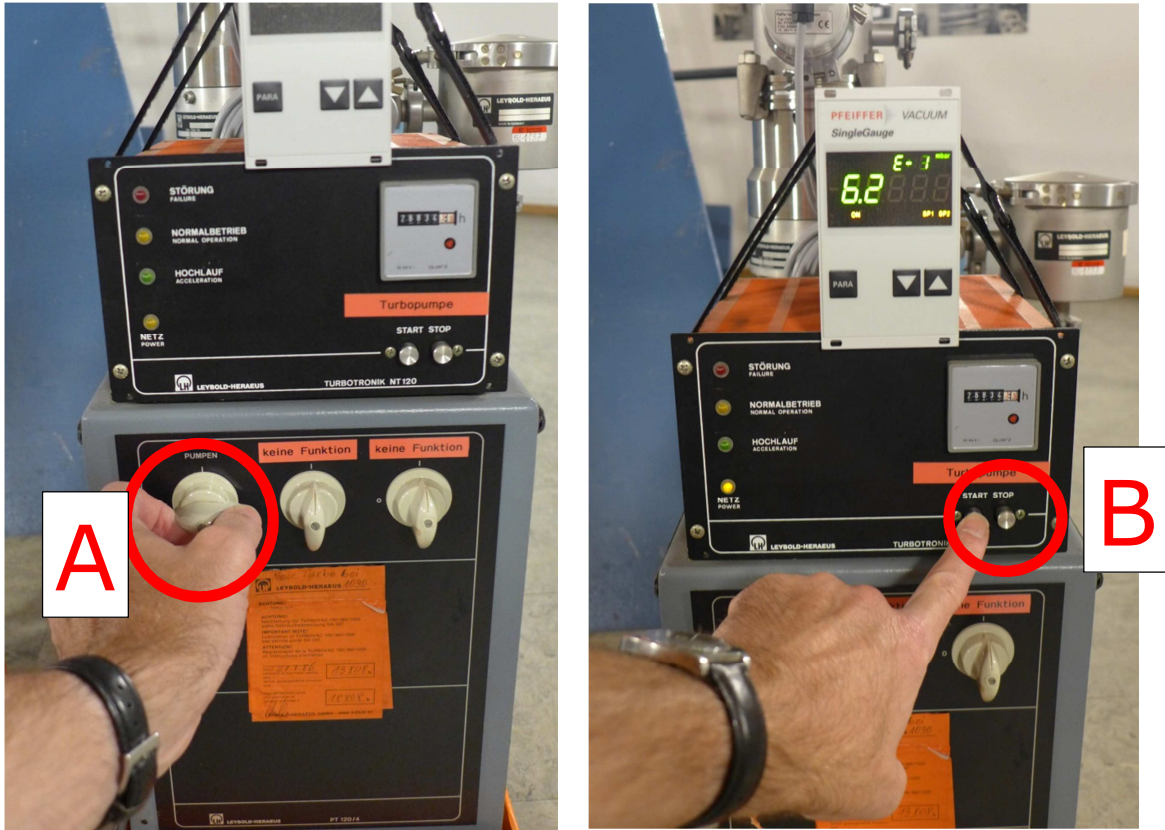

Figure 5-7: Left: switch on roughing pump and mains power. Right: start TMP.
- e) First start the **roughing pump** by turning the “PUMPEN” knob from 0 to 1 (Figure 5-7, A).
- g) Then, start the **TMP** by pressing the start button on the pump electronics (Figure 5-7, B).